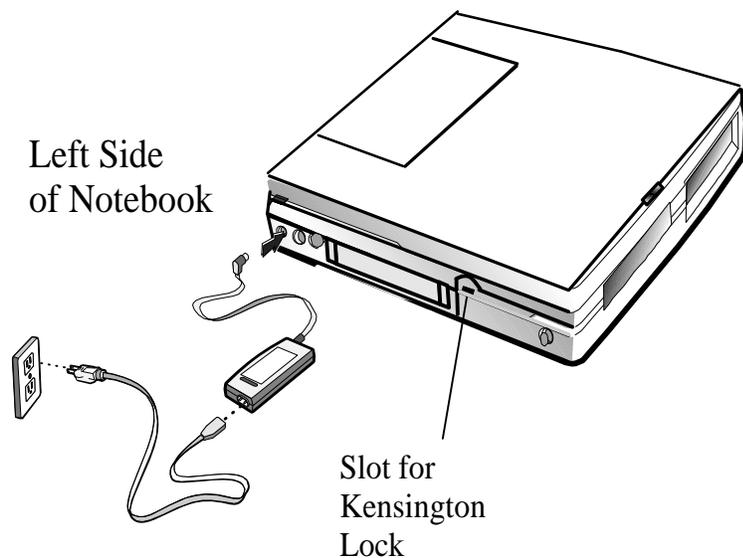

Figure 2-12 Installing the AC Adapter
1. Remove the AC adapter from the packaging. Connect the round coaxial connector supplied with the notebook to the **DC IN** power receptacle on the left rear of the notebook as shown in Figure 2-12.
3. Insert the lock into the slot on the left side of the computer (refer to Figure 2-12).